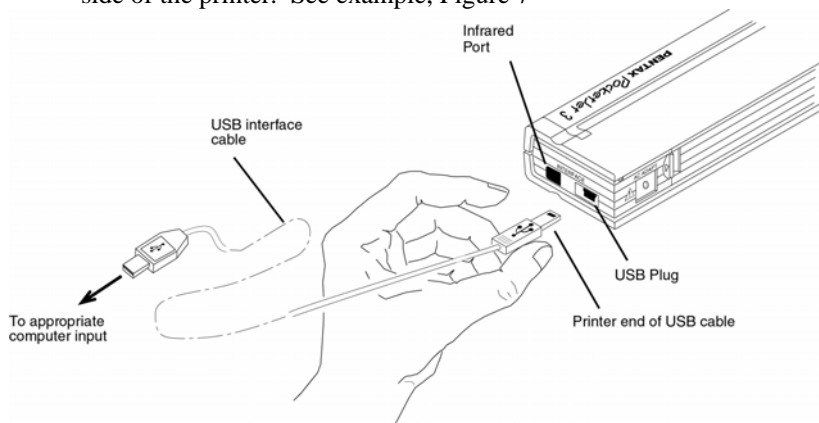

FIGURE 7. Connecting the PocketJet to your computer
3. Insert the printer end of the cable into the interface connector on the side of the printer. See example, Figure 7